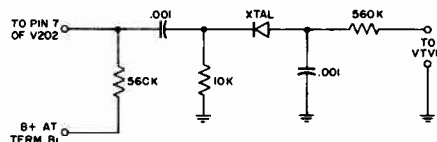

Figure 9—Sound Diode Detector
- VACUUM TUBE VOLTMETER... Connect to output of diode detector shown in Fig. 9. Set meter for negative voltage readings.
- MISCELLANEOUS..... Connect test diode detector, see Fig. 9, to pin 7 of V202. Refer to Fig. 16 for adjustment locations.